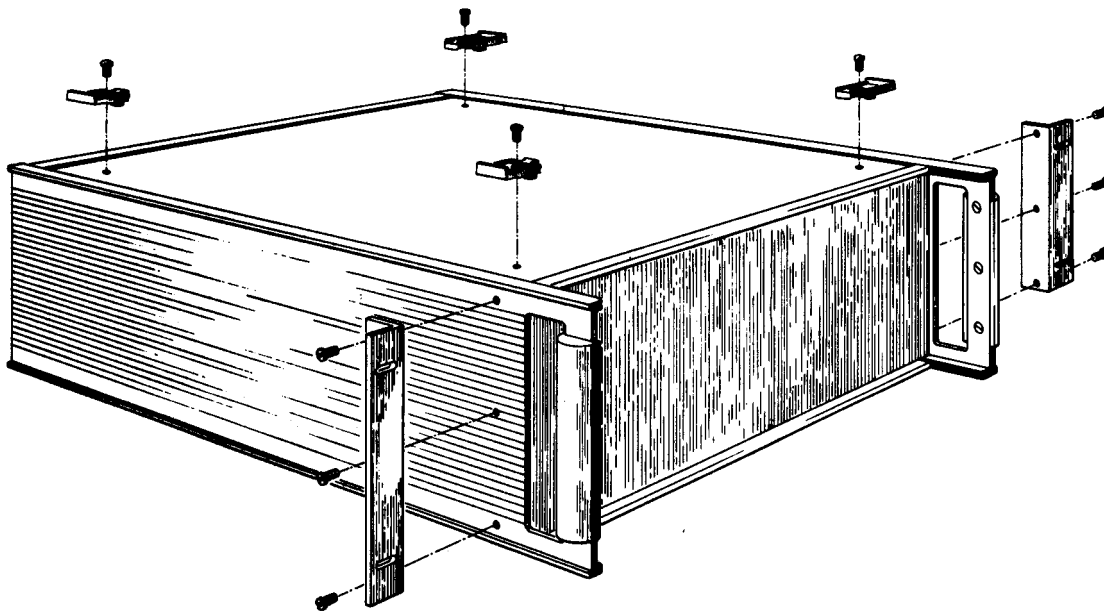

Figure 1.1 Interference Analyzer (Inverted), Installation Drawing
1.5.2 Rack mounting requires the use of two adapter mounting brackets (ABM-25). Using these brackets, install the instrument by the following procedure. (See Figure 1-1.)